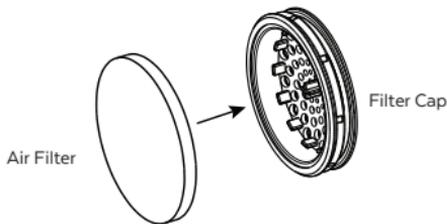

Fig. 11-1
1. Attach the air filter to the filter cap, as shown in Fig. 11-1.